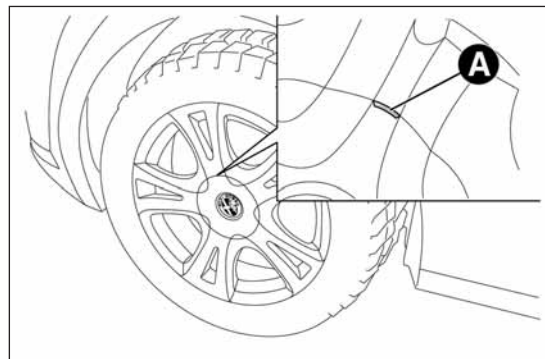

fig. 117
- **for versions with alloy rims:** shake the car to facilitate detachment of the rim from the wheel hub. Some versions may be fitted with alloy wheels with a hub cap (fig. 117). To remove the hub cap, insert the screwdriver into housings A in order to access the fixing bolts. Replace the wheel as described previously;